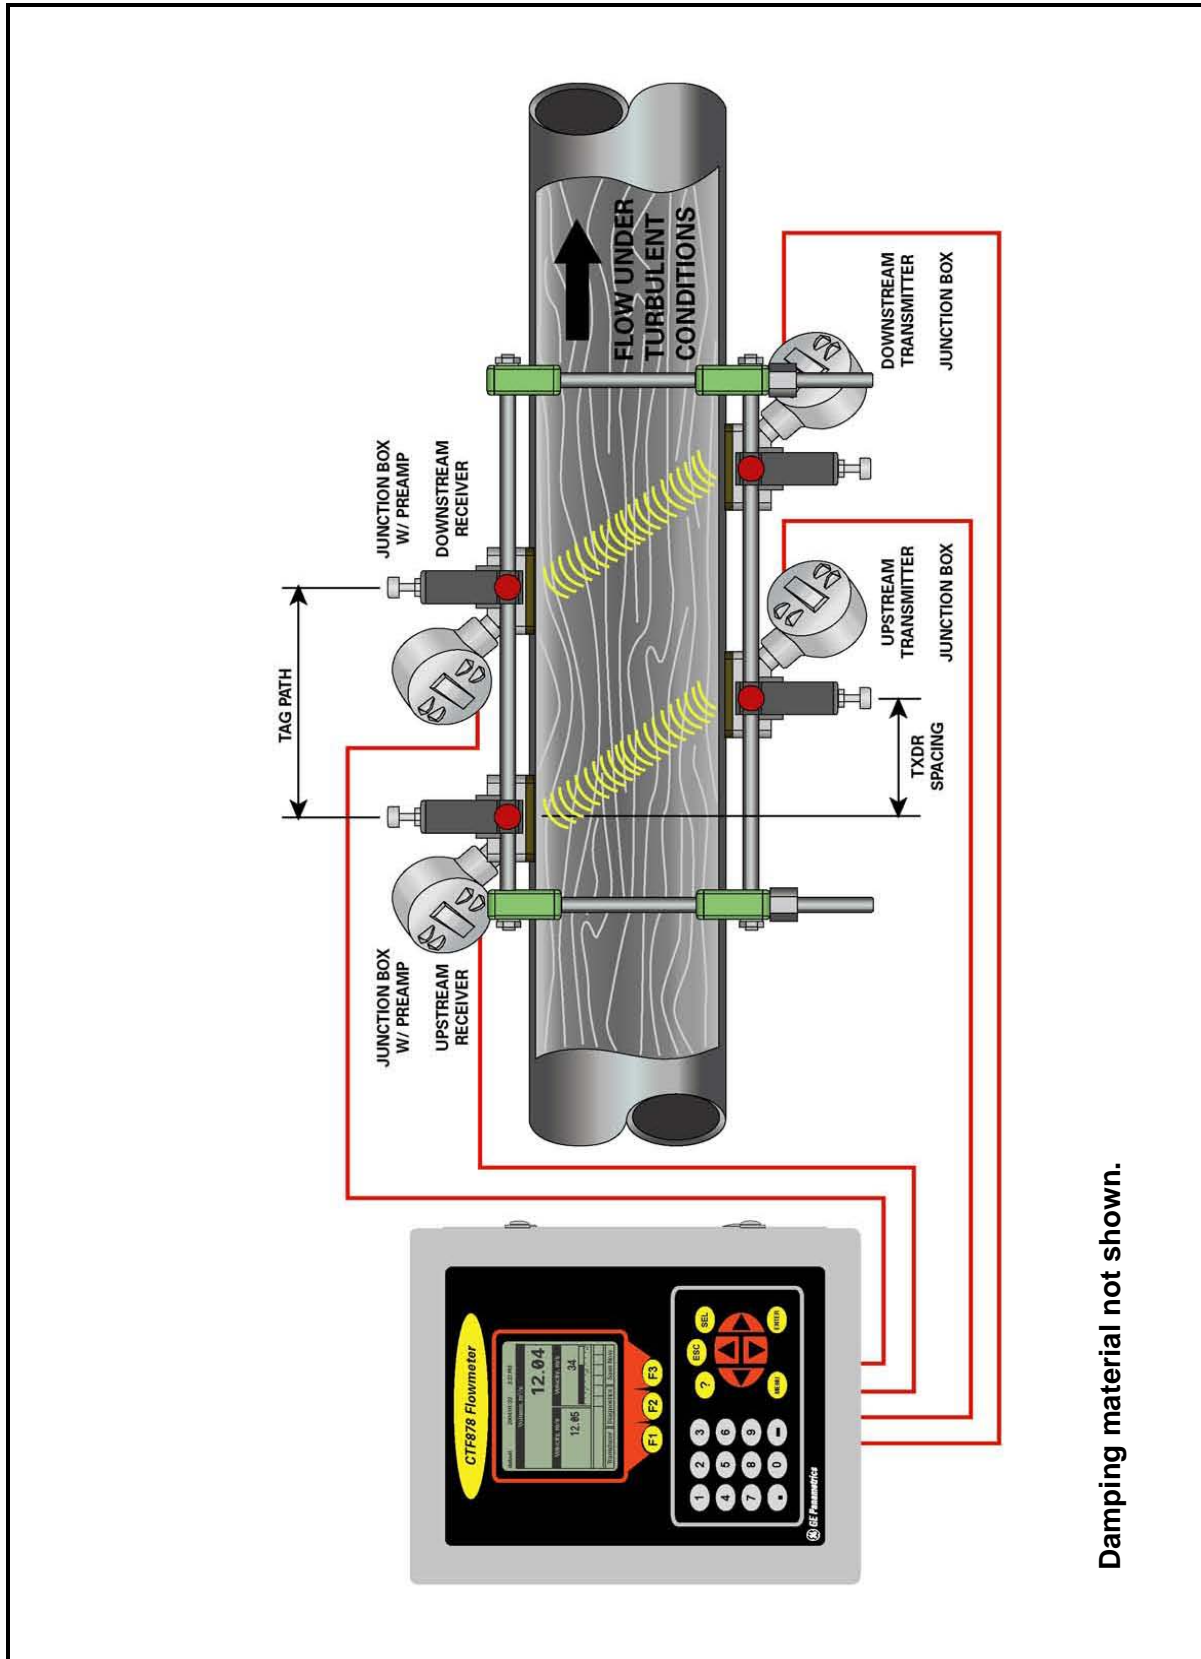

Figure 1-1: Typical CTF878 System Setup using a CFT-V Clamping Fixture
- **CLAMPING FIXTURE** - The clamping fixture provides mechanical support for the transducers and assures stable alignment for accurate measurement (see Table 1-1 below and Figure 1-1 on page 1-4).